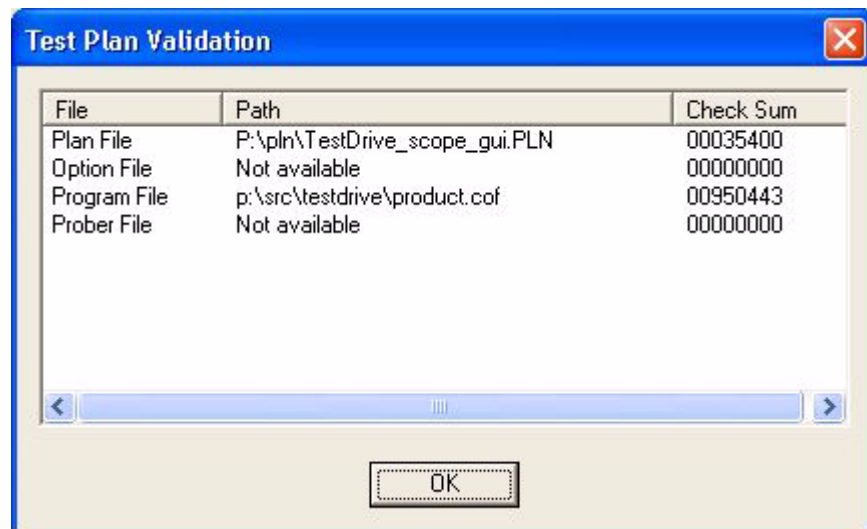

Figure 6-49. Test Plan Validation Dialog Box
- 7 Selecting **OK** displays the Test Plan Validation dialog box (Figure 6-49). The `VALIDATE 0x10` plan file test switch controls whether this dialog box displays. It displays the corresponding checksums and adds them to the summary file.